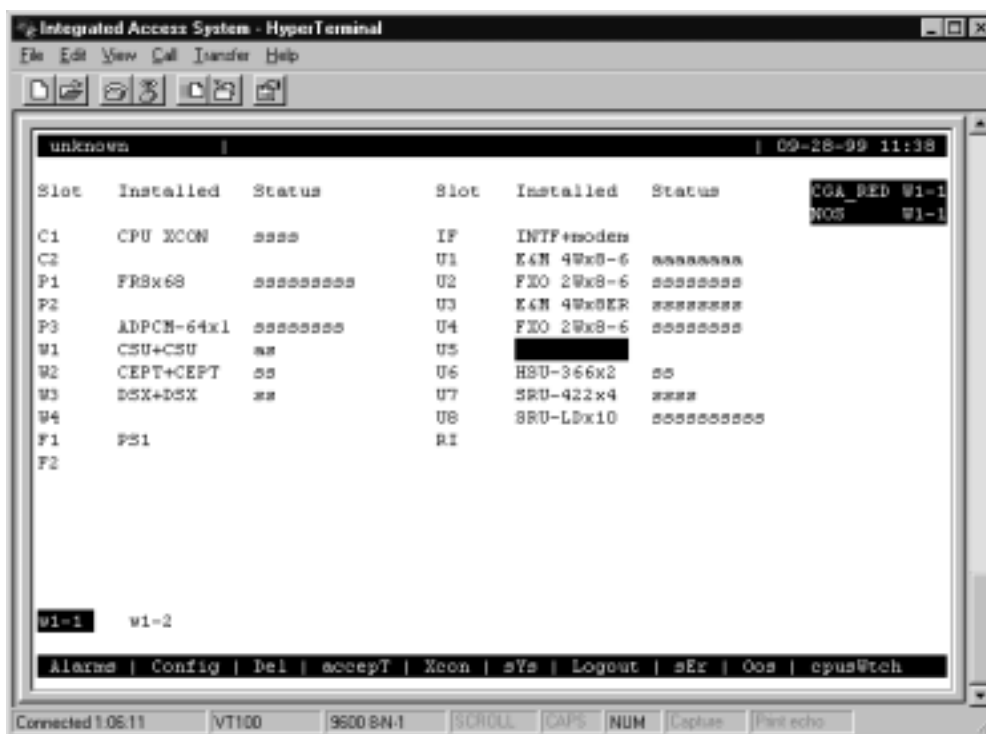

Figure 5-44. Typical WAN Card Selection
5. Select the WAN port to which you want to assign the voice cards (W1-1 or W1-2), as shown in Figure 5-44.